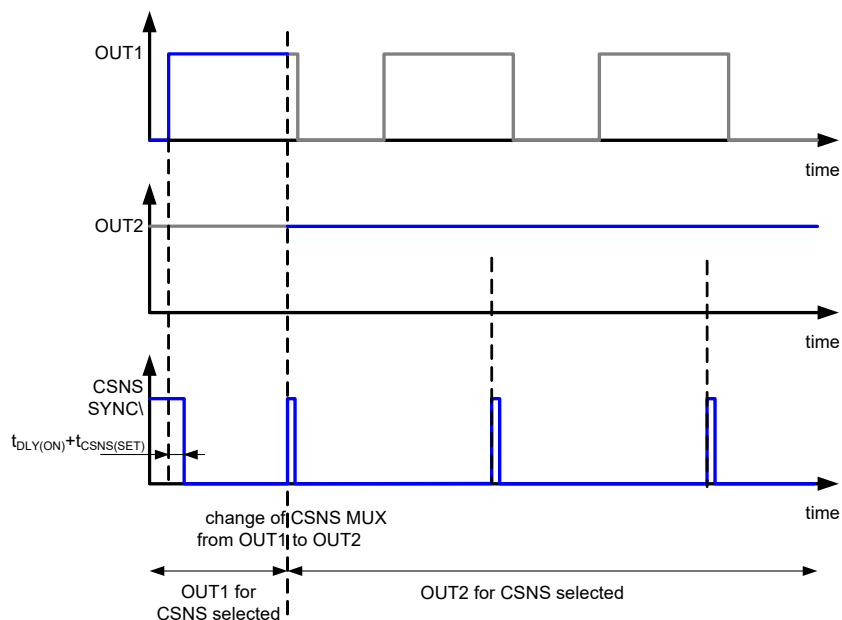

Figure 32. CSNS SYNCB when the output is programmed with 100%
- when the output is programmed with 100% PWM, the CSNS SYNCB delivers a logic[0] a high pulse with the length of 100 μ s typ during the PWM counter overflow for TRIG0 and TRIG1/2 settings, as shown in Figure 32